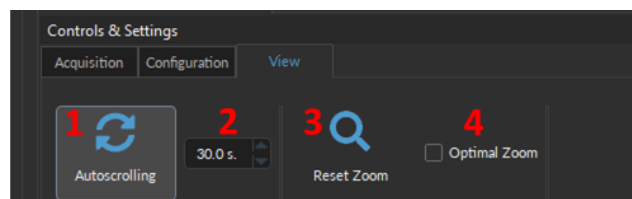

Figure 3.10: View Tab
The **View Tab** (Fig. 3.10) is used to modify the presentation of graphs in the **Acquisition view**.
1. The **Autoscrolling** button (Fig. 3.10, 1), when selected, automatically set the graphs to scroll as new data appears.
2. the **Zoom range** (Fig. 3.10, 2) sets the graph zoom to the value of choice, specified in the text-box.
3. The **Reset Zoom** button (Fig. 3.10, 3) readjusts the graph zoom to the value specified in the zoom range text-box.
4. The **Optimal Zoom** check-box (Fig. 3.10, 4) automatically adjusts the graph range based on the values of the data collected. Smaller values will lead to greater zoom, and vice versa.